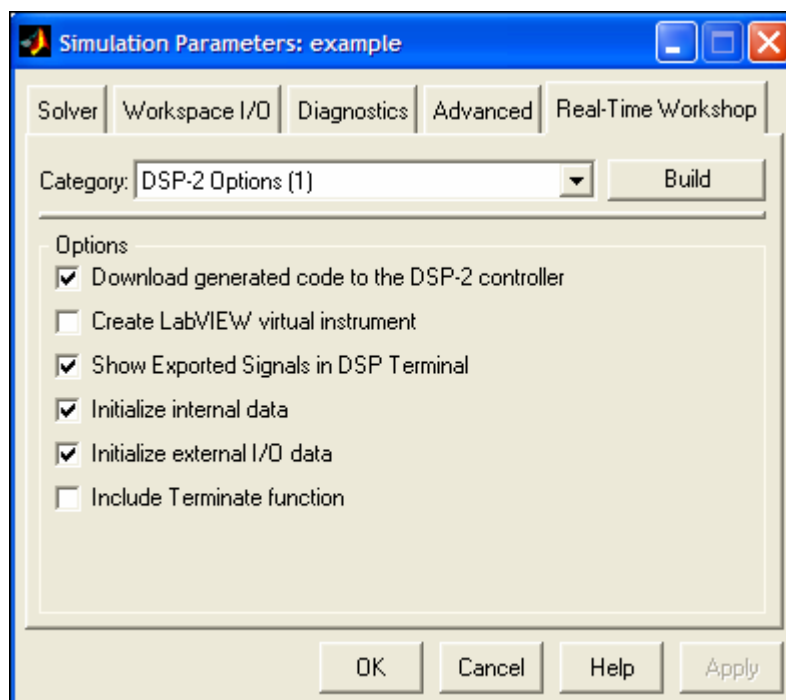

Figure 16: DSP-2 options (1)
If an option *Download generated code to the DSP-2 controller* on the *RTW options page (1)* (Figure 16) is selected, then downloading process is automatically invoked.
DSP-2 options (1) (Figure 16):